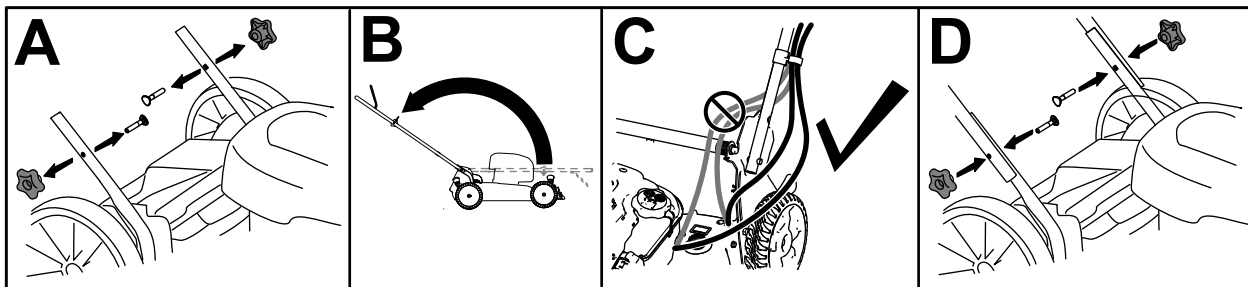

Figure 3
1. Remove the handle knobs and corresponding bolts from the lower handles (A of Figure 3).
2. Position the upper handle on the lower handles and then unfold the handle (B of Figure 3).
3. Ensure that the cables are routed to the outside of the handle (C of Figure 3).
4. Install the handle knobs with the corresponding bolts and tighten them firmly by hand (D of Figure 3).